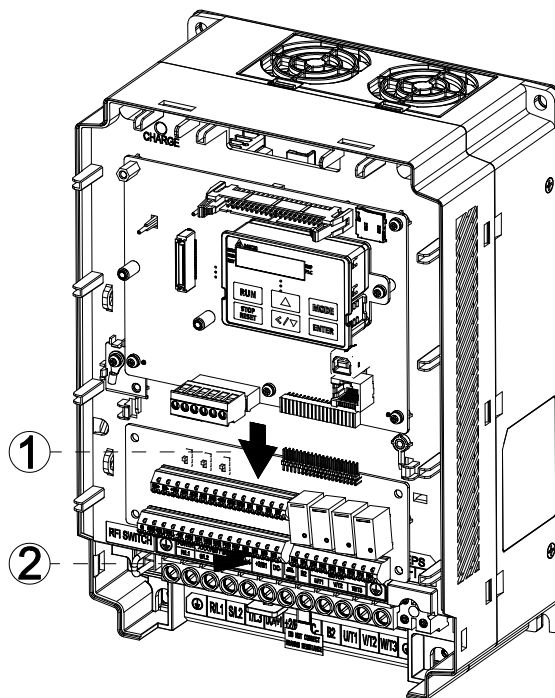

Figure 4-22
2. As shown in Figure 4-22, push the board in a direction as the narrow marking ① shows for about 2.5 cm, and then detach it vertically, as marking ② shows.